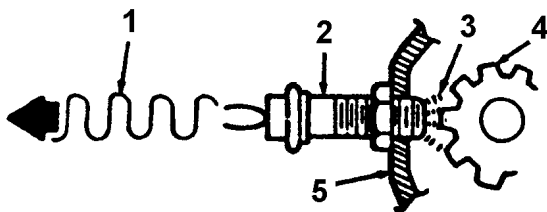

Figure 13 Speedometer Operation
The sensor (Figure 13) is a magnetic pickup which senses the rotation of the speedometer gear mounted in the transmission. A permanent magnet located in the sensor establishes a magnetic field at the tip of the sensor. The field is repeatedly interrupted by the teeth of the speedometer gear in the transmission, creating voltage impulses from the vehicle speed sensor (VSS). When Fuller manual transmission, these are transmitted through connector (303), on circuits K47 and K47A, to connector (6021) on the ECM2. When Allison WTEC automatic transmission, these are transmitted from connector (7983), on circuits K139 and K148, to connector (7203) on the ECU, and these are transmitted from the control module connector (7204), on circuits K157, to connector (6021) on the ECM2. Or, Allison 2000 (LCT) automatic transmission, these are transmitted from connector (7600), on circuits K215 and K216, to connector (7304) on the TCM, and these are transmitted from the control module connector (7305), on circuits K126/K126W, to connector (6021) on the ECM2. The ECM2 converts the sensor signal to a digital data signal. This signal is transferred over the data link on circuits A98E(+) and A98F(-) to pins 7 and 9 of connector (11), into the instrument cluster. The instrument cluster's microprocessor drives the speedometer.